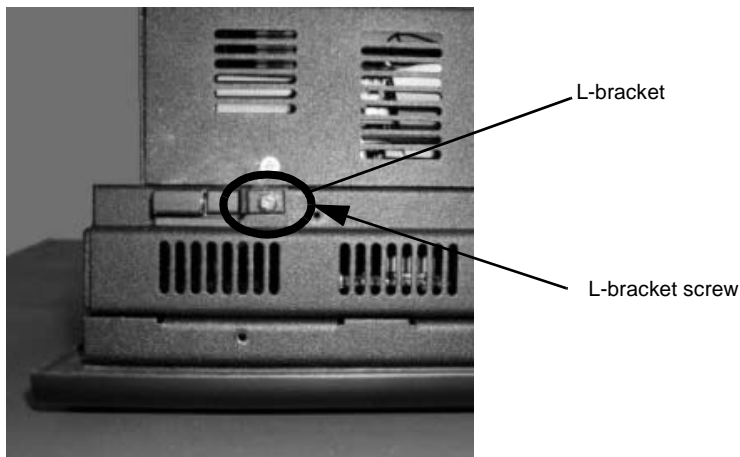

Figure 1: L Bracket Location
2. Remove the screw on the left side of the unit holding the L shaped bracket to the unit. The bracket is located next to the upper backshell pin as shown in figure 1.
21. Secure the L shaped bracket, next to the upper left hinge of the unit using the screw removed in step 2 of the *Opening the PowerStation* section. Refer to figure 1.